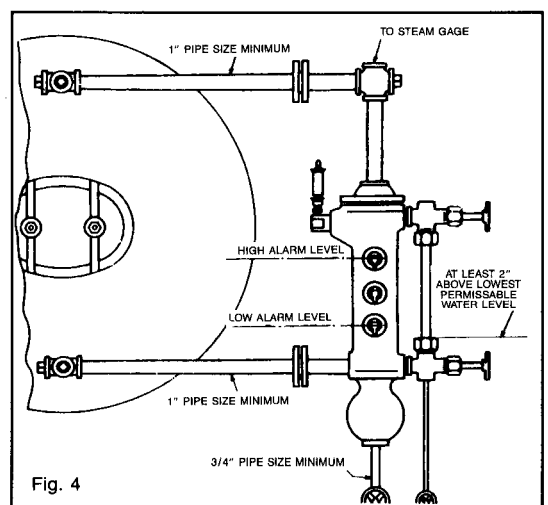

Fig. 4
**WATER TUBE BOILER:** When water column is mounted at a distance from drum, as in Fig. 4, pipes should be supported by brackets permitting longitudinal freedom for expansion. Consideration should be given to vertical setting of column as gage glass will show less water height than is actually in the drum during normal steaming operation, due to difference in temperature. Water column may be connected direct to drum head.